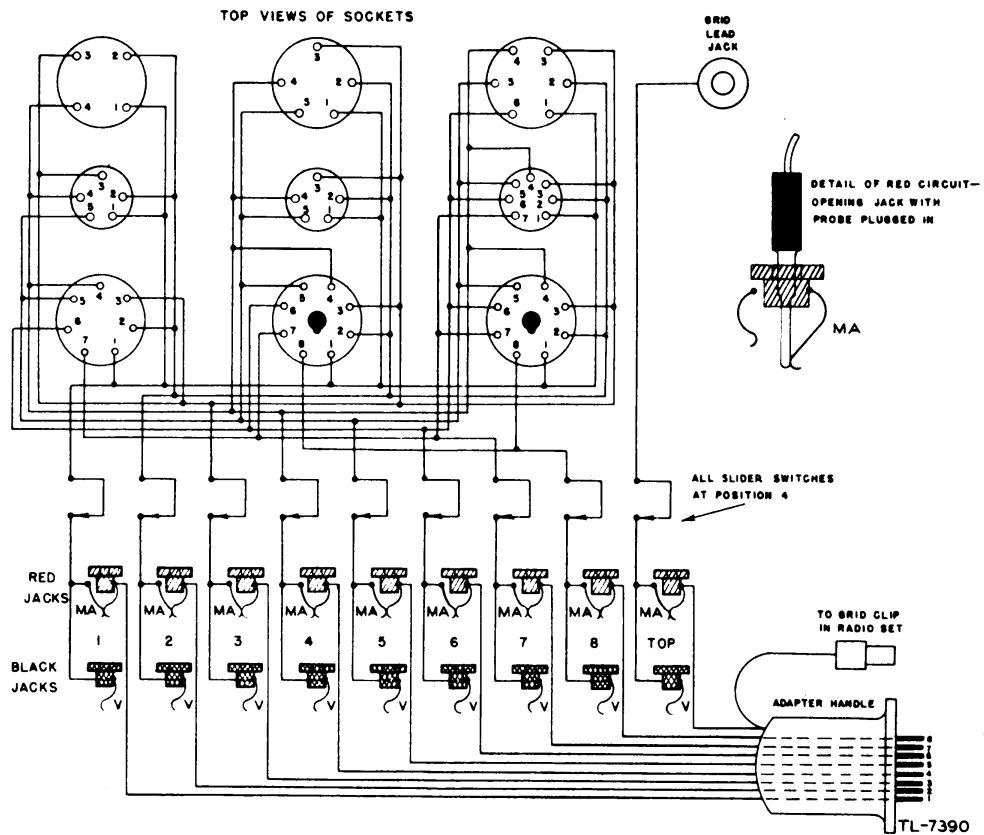

FIG. 20. MODEL 104 COMBINATION TESTER, SIMPLIFIED FREE-POINT TESTING CIRCUIT
h. Combination Tester as Free-Point Tester (fig. 20). When all the slide switches (S-3) are in position 4, the tube socket terminals are connected to the red (MA) and black (V) jacks (J-5, J-6). The free-point cable (CAB-1) is connected to the red (MA) jacks (J-5). The number on the jacks and adapter plugs correspond to the tube socket numbers, so that terminal 1 on the tube socket terminal is connected to jack 1 and adapter plug prong 1. Measurements can be made between the various jacks in the same manner as for external circuits.